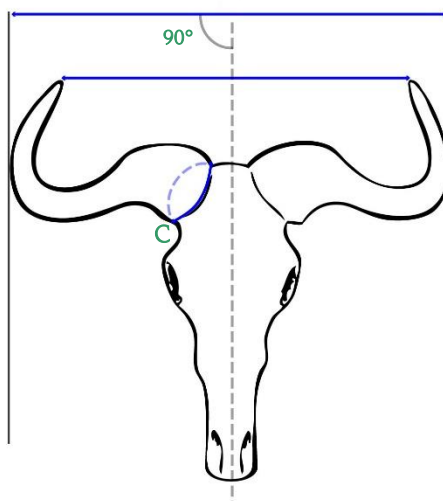

Figure 1 Blue, Cookson's, Nyasaland, or White-bearded Wildebeest
1. Greatest Spread. Establish the outer limits of the horns using two right-angle forms. Measure the greatest spread in a straight line and at a right angle to the axis of the skull. (Figure 1, G)
3. Tip-to-Tip Spread. Measure the spread from the very tip to the other tip. (Figure 1, E) The best tool for this is a wood ruler with a 6-inch slide rule built in. N.B. In order to fall in the typical category, the tip-to-tip measurement must be 5 percent less than the greatest spread. If not, the animal falls into the atypical category.